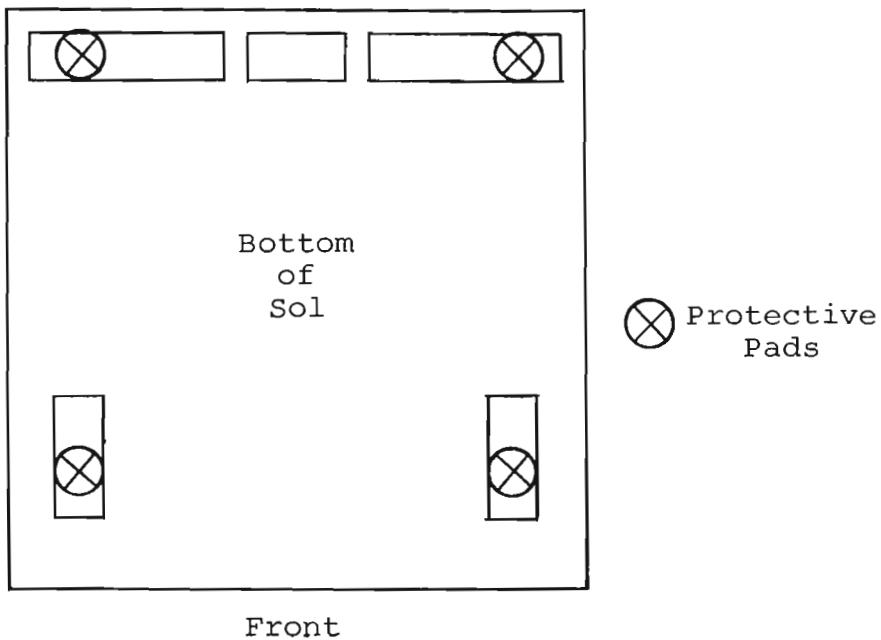

Figure 6-8. Protective foot pad installation.
- ( ) Step 46. Affix self-stick protective pads to bottom of Sol as shown in Figure 6-8.